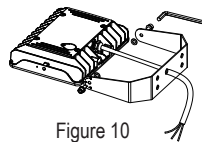

Figure 10
Step 2: Using an Allen key (5/16), disassemble the universal bracket into three main parts: "U" shaped part, upper knuckle, and lower knuckle.
Step 3: Using an Allen key (3/16), install the "U" shaped bracket on the two side threaded holes, with the screws provided. Pull the wire through the middle hole. (Figure 10)